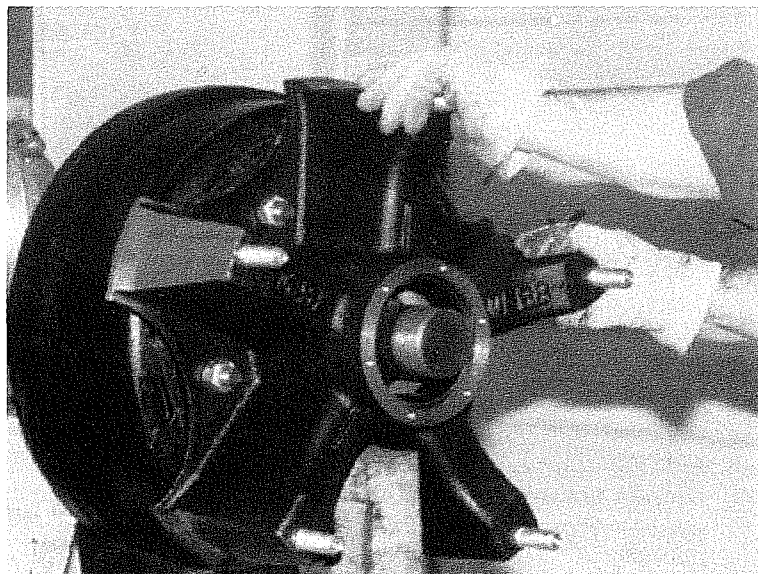

*Figure III-2: Cleaning of components with commercial solvent.*
- e. Clean all component parts with a good grade of commercial cleaner, as shown in Figure III-2, and dry with a clean, absorbent cloth or paper. Lubricant will not adhere to surfaces wet with solvent, and these solvents may dilute the lubricant. All tools used in the installation should be clean and dry. If components are not clean, or if contaminants are introduced to the system through the tools, your axle and/or wheel life may be significantly reduced.